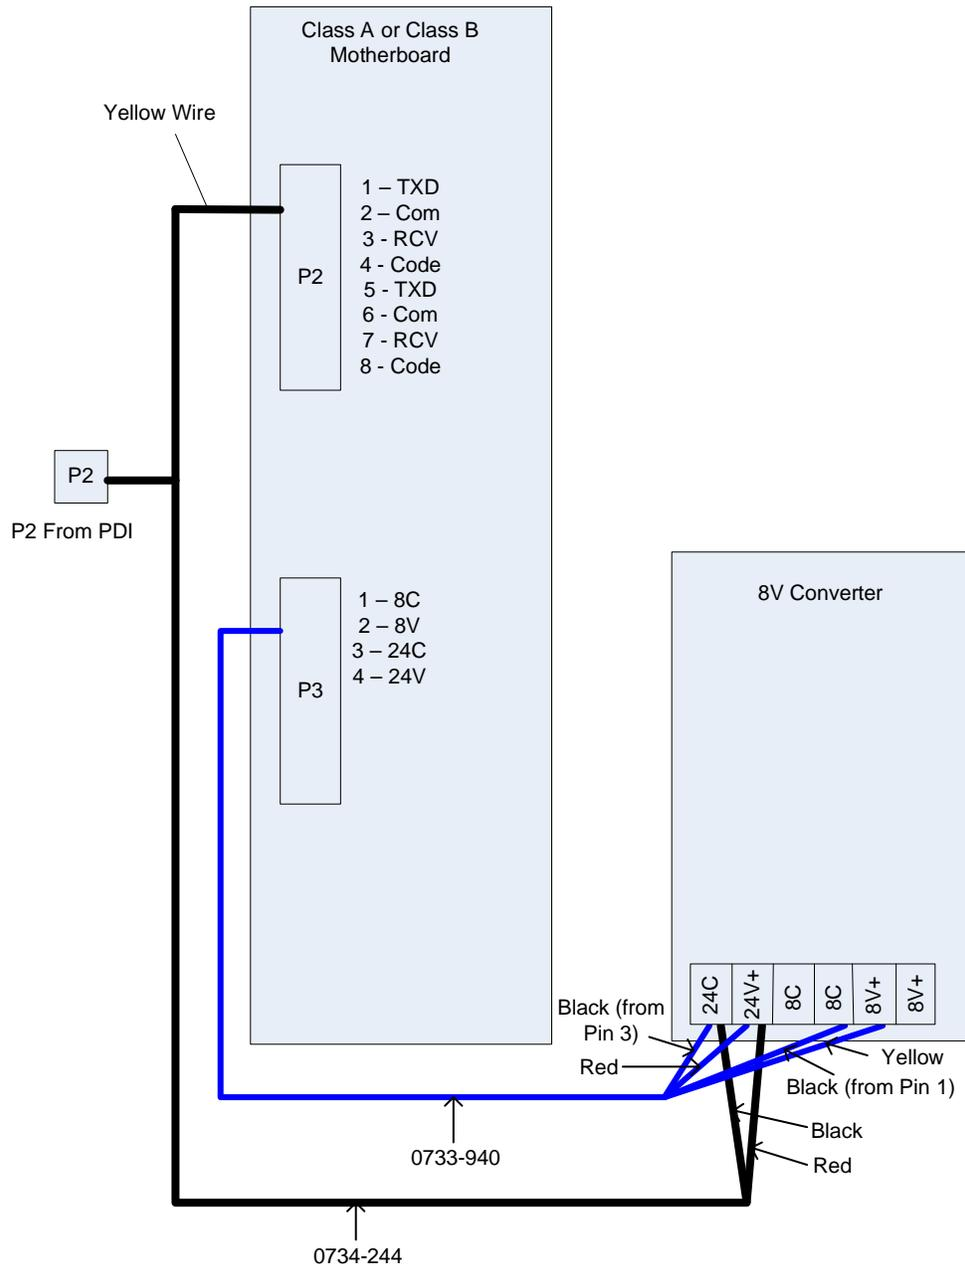

Figure 12. Zone Card Wiring
2. Using harness 733-940, attach the 8V DC Converter to the Zone Card Motherboard. Connect the stripped end of the harness to connectors "24C", "24+", "8C" and "8+" on the DC converter. Attach the other end of the harness to the top four pins on connector P3 of the Zone Card Motherboard. The connectors are keyed to fit in only one direction. See Figure 12.